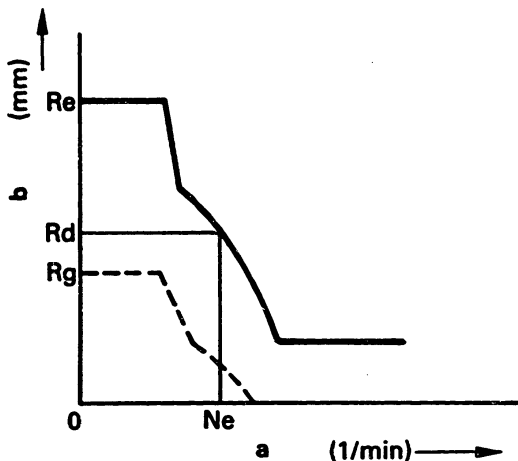

Fig. 87 Stopper bolt
If idling performance is included in service data, as represented by dotted line in Fig. 87, adjust stopper bolt (50) setting.
1. After setting damper spring, when pump speed is decreased to 0 rpm, control rack position moves to "Re". (Fig. 87)
2. After loosening stopper bolt, move the load control lever until control rack position is "Rg" and set stopper bolt at this point. (Figs. 87 and 88)